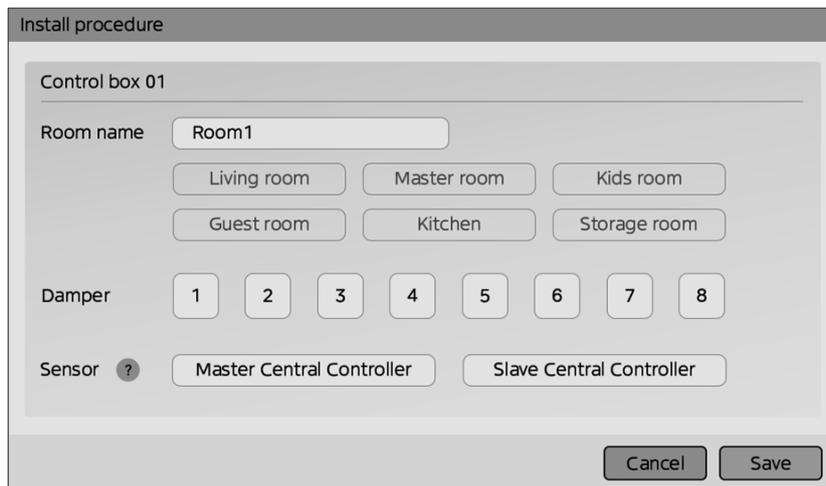

Fig 1.5
- Press **[Add]** button to create a new room, enter the name of the room, and choose damper that belong to this room. (Fig 1.5).